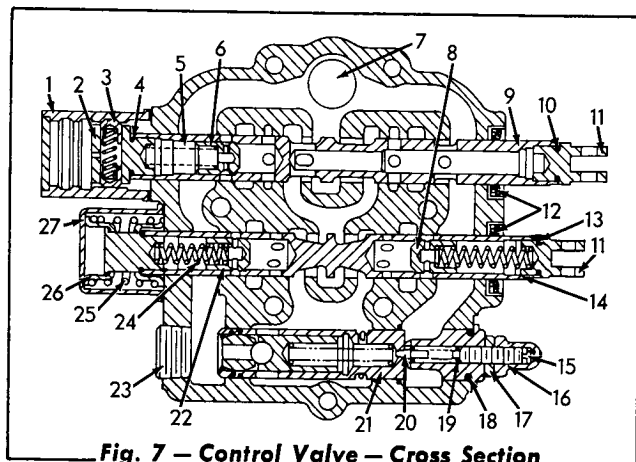

Fig. 7 - Control Valve - Cross Section
The two lift cylinders and two dump cylinders are controlled through the control valve which is located underneath the hydraulic tank cover plate behind the operator's seat and is attached to the top of the hydraulic tank (refer to Fig. 2). The control valve houses the hydraulic system main pressure relief valve, which provides for regulating the pressure throughout the hydraulic system (refer to Fig. 7).
B. Disassembly of Control Valve (Refer to Fig. 7)